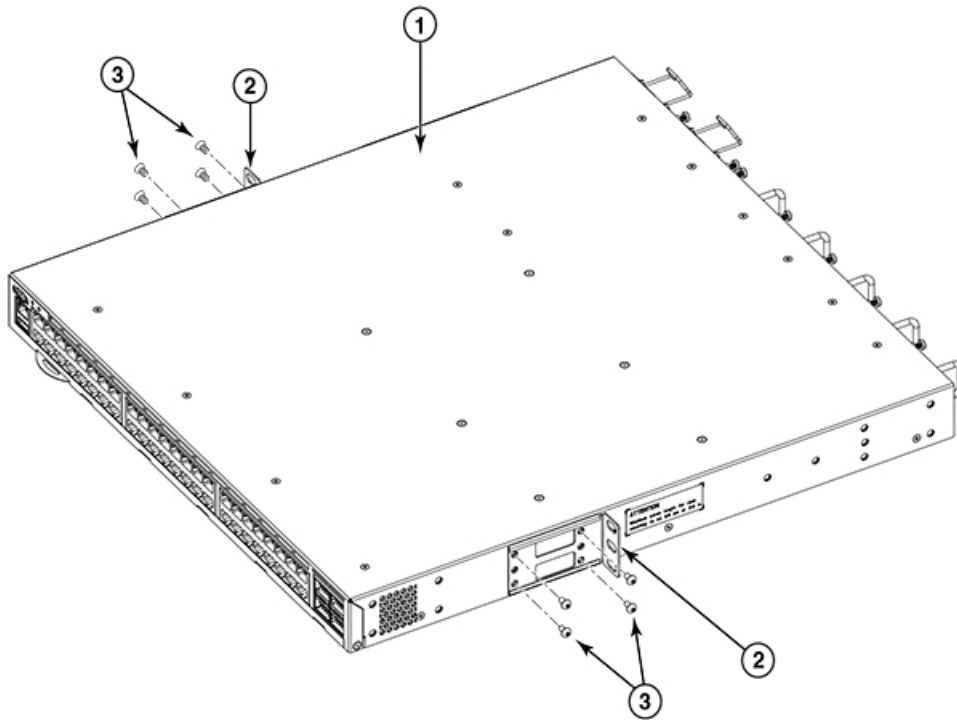

Figure 20. Attaching the front brackets
1. Position the right front bracket with the flat side against the right side of the device, as shown in Figure 20 on page 33.